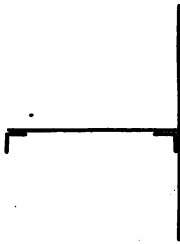

FIG. 153.
- "Web frames" are made up of a plate and two angles, one angle against the shell facing the same direction as the frames and the other angle at the "inboard" edge of the plate riveted to it, and called a "stiffener." This angle can look the same direction as the other or not, as desired. The depth of these web frames varies according to the design and may be anywhere from 12 to 30 in. (Fig. 153.)